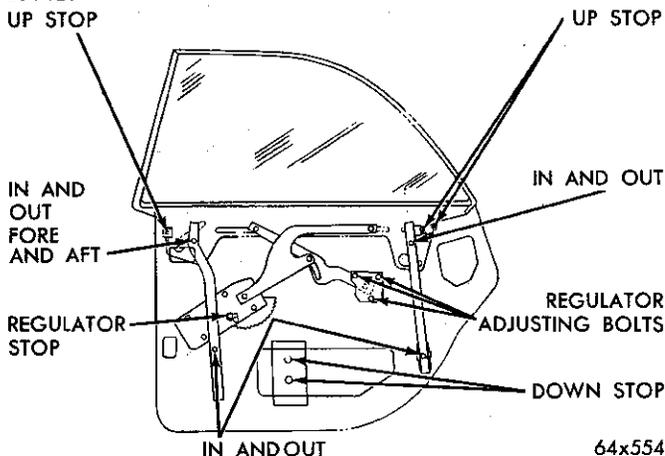

Fig. 17—Rear Door Glass Adjustments
(5) Turn the upper track attachment nut until the rear of the glass touches the cat whiskers lightly at the door outside panel side.
(6) Raise the window fully and adjust the lower stabilizer (in or out) so that the front of the glass is aligned with the rear of the front door glass at the roof rail area.
(7) Adjust the regulator pivot bracket so that the front edge of the glass is parallel to the rear edge of the front door glass.
(8) Adjust the upper track attachment forward until the glass weatherstrip is forward against the front door glass.
(9) Adjust the door glass up stops.
(10) Lower the window until the top edge of the glass is slightly below the belt line of the door outside panel.
(11) Adjust the lower track until the boss of the track sleeve nut is against the inside panel.
(12) Adjust the door glass down stops.
(13) Operate the door window and inspect alignment and operation.
(14) Install the door trim panel and hardware.
17. REAR DOOR GLASS ADJUSTMENT (Hardtop) (Chrysler Models) (Fig. 17)